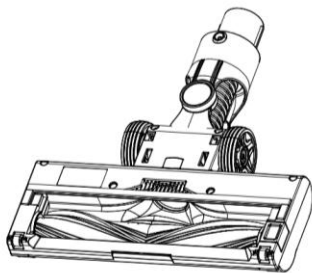

Figure 1.
1. Remove the electric floor brush from the main machine as described before and turn the floor brush over (Figure 1)